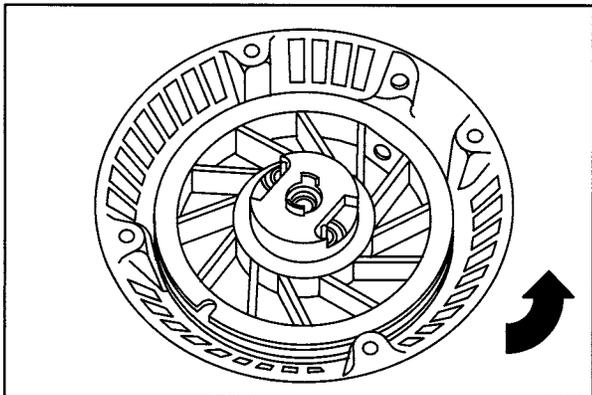

Fig. 61
3. Rotate pulley **COUNTERCLOCKWISE** until slight resistance is felt, indicating that spring is engaged in spring tab in housing, **Fig. 61**.